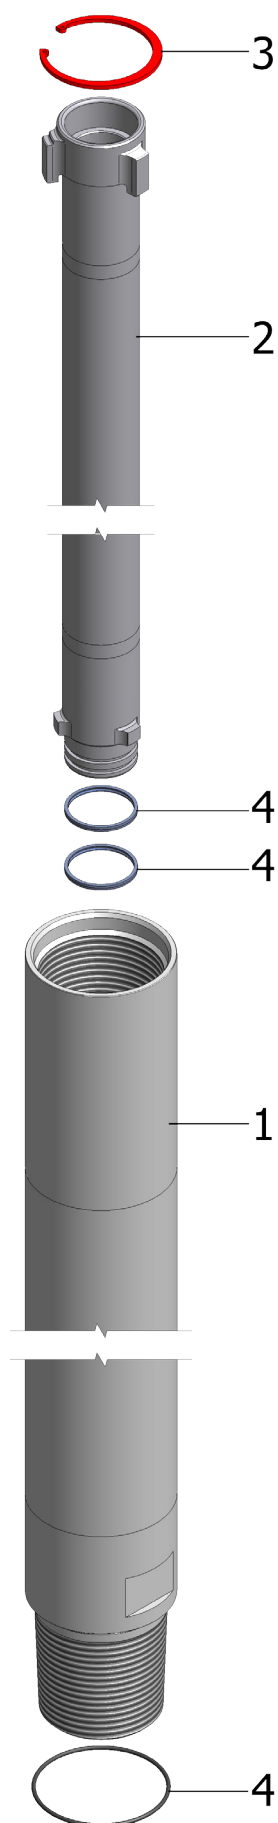

FIG. 3.19
**D.127 C2 ROD: J-12C21000 (L=1000); J-12C22000 (L=2000); J-12C23000 (L=3000) (REF. FIG. 3.19)**